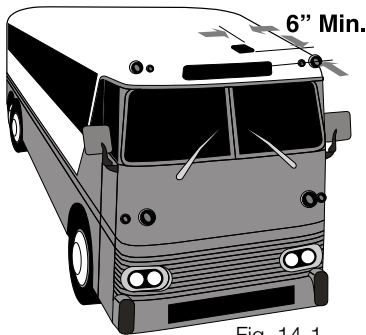

Fig. 14-1
- 6) Maintain a minimum of 6 inches from any rooftop edge or ledge, see Fig. 14-1.